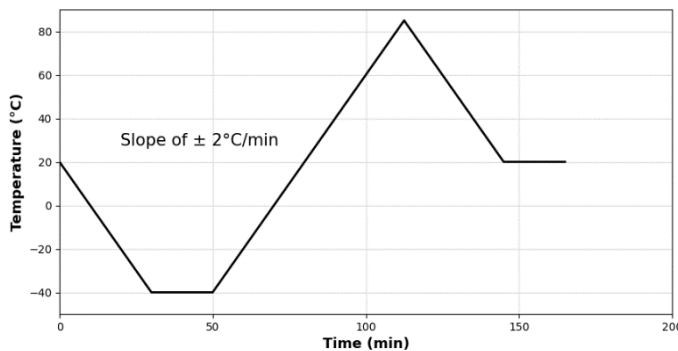

Figure 24: Recommended Temperature profile for calibration
2. Place the sensor on a rate table in a thermal chamber and implement temperature profile according to Figure 241